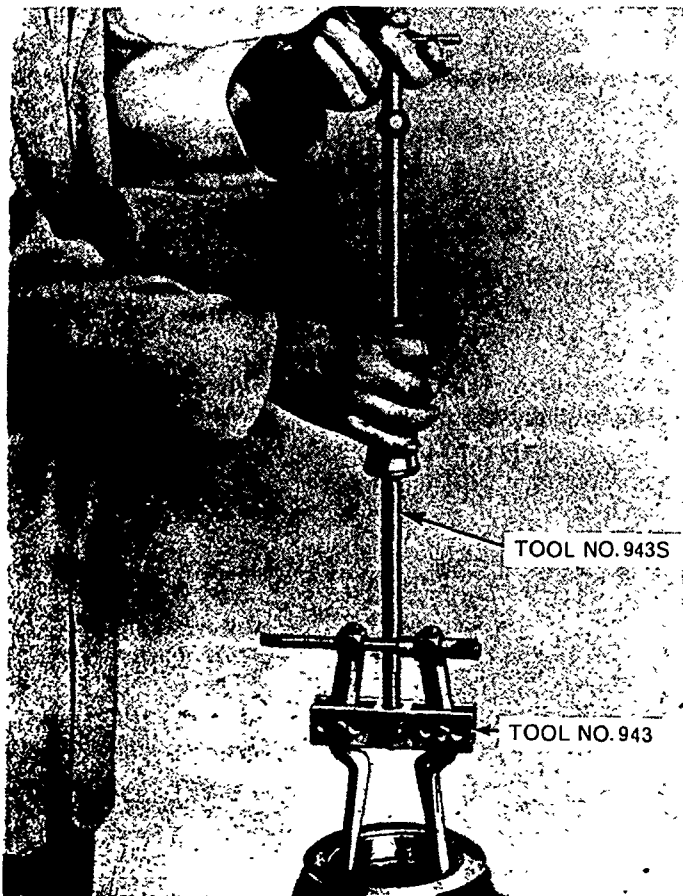

Figure 47
2. If it is necessary to install a new axle shaft bearing cup, remove the cup from the housing using Tool Nos. 943 and 943-S, Figure 47.